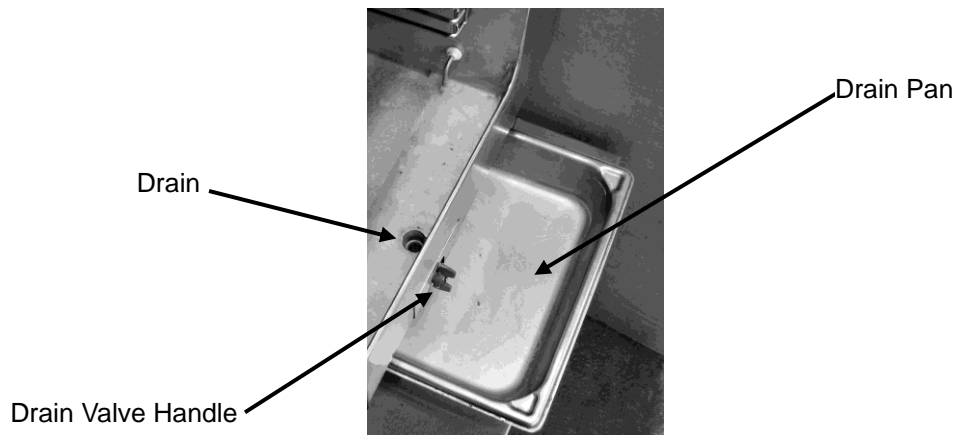

Figure 3-1
2. Inspect and clean the drain before each use. See Figure 3-1.